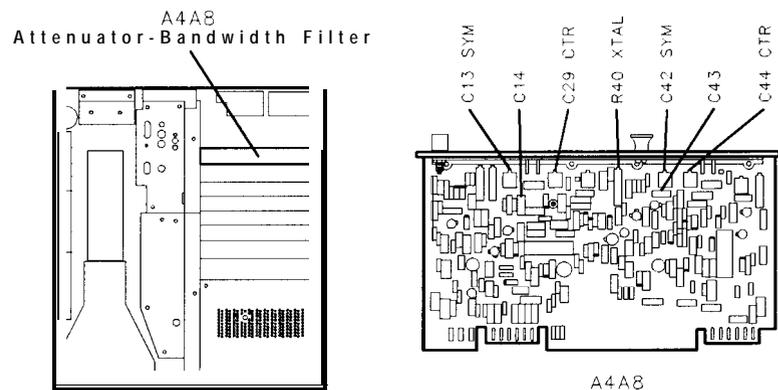

Figure 3-44.
39. Adjust A4A8C44 **CTR** to center signal on center graticule line. Adjust A4A8C42 **SYM** for best symmetry of signal. See Figure 3-44 for location of adjustments. If unable to adjust A4A8C42 **SYM** for satisfactory signal symmetry, increase or decrease value of A4A8C43. Refer to Table 3-3 for range of values.
41. Adjust A4A8C29 **CTR** to center signal on center graticule line. Adjust A4A8C13 **SYM** for best symmetry of signal. See Figure 3-44 for location of adjustments. If unable to adjust A4A8C13 **SYM** for satisfactory signal symmetry, increase or decrease value of A4A8C14. Refer to Table 3-3 for range of values.
45. Adjust A4A8R40 XTAL to align markers on display. MARKER A level should indicate 1.00 X. See Figure 3-44 for location of adjustment.